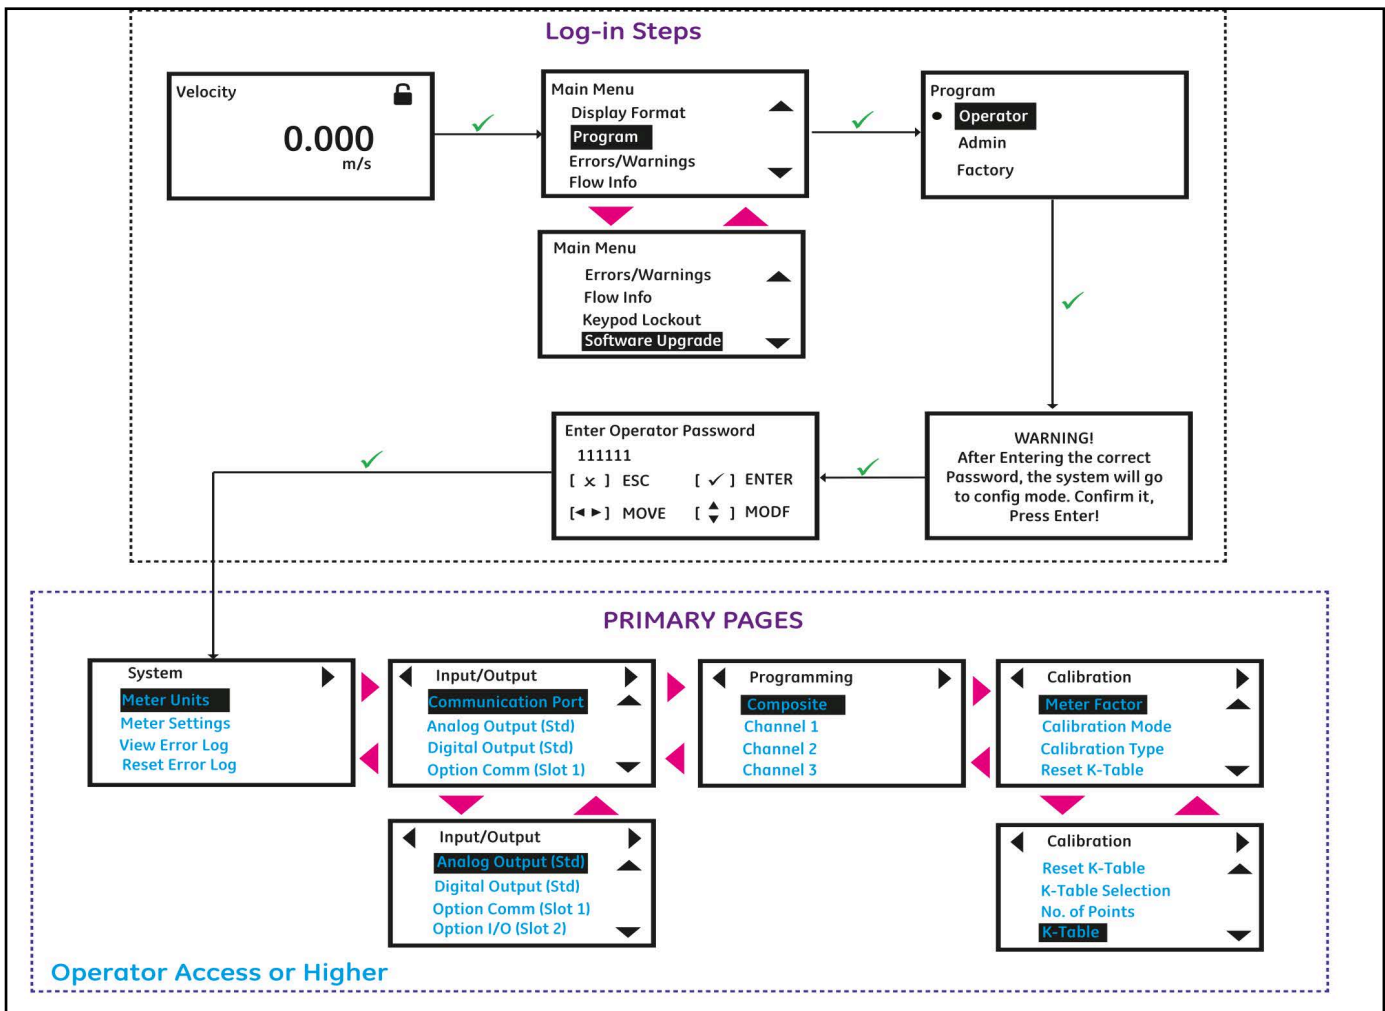

Figure 27: Log-in Steps and Primary pages
5. After completing the log-in steps you will see the primary pages as shown in the *Figure 27*. To move from one page to the next, press [◀] or [▶] and to scroll to options within a page press [▲] and [▼].